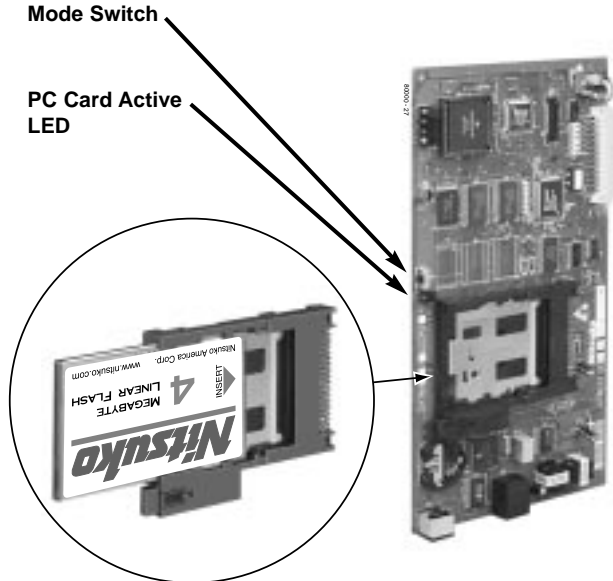

Figure 5-1 USING THE PC CARD
Backing Up Site Data with a PC Card (Figure 5-1)
1. Insert the PC Card into the CPU (see Figure 5-1).